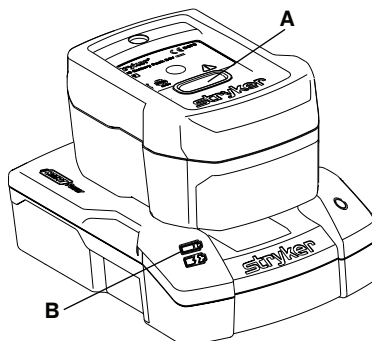

Figure 26 – Charging the SMRT Pak
To charge the **SMRT** Pak (Figure 26):
- The **SMRT** charger LED indicator (B) will flash green while charging (Figure 26). The optimum charge time is two hours.
- When the **SMRT** Pak is charged and ready for use, the **SMRT** charger LED indicator (B) will turn to solid green.
2. Press the red release button (A) (Figure 26) and slide the **SMRT** Pak to release the charged and ready **SMRT** Pak from the **SMRT** charger.